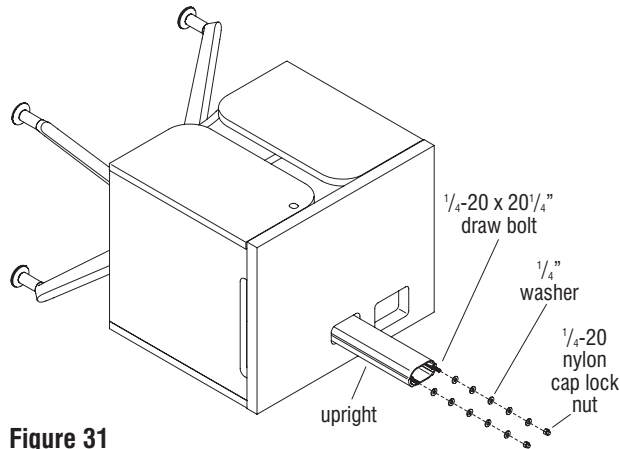

Figure 31
8. Carefully place the base assembly with storage cabinet onto its back, non-user side, on a soft, protective surface (Figure 31).
9. From the bottom to the top of the base upright are two 20¹/₄" long draw bolts, each with a 1/4-20 nylon cap lock nut and five 1/4" washers at the top. The lock nuts and washers must be removed temporarily. Begin by using a T-30 Torx tip on a socket wrench, to hold one 1/4-20 x 20¹/₄" draw bolt at the bottom of the base. Then at the top of that same 20¹/₄" long draw bolt, use a 7/16" socket and wrench to remove the 1/4-20 nylon cap lock nut attaching it. Next, remove the five 1/4" washers from the draw bolt. Repeat this step to remove the second 1/4-20 nylon cap lock nut and five washers, saving the lock nuts and washers for the next step (Figure 31).